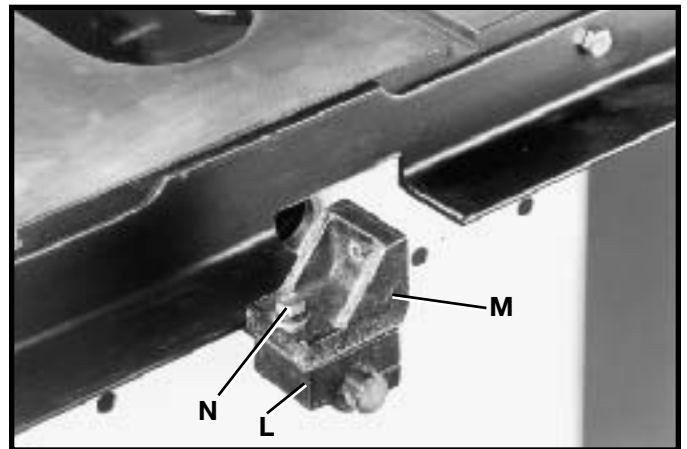

Fig. 30
8. Assemble upper splitter bracket (M) Fig. 30, to lower bracket (L) using one-inch long hex head screw (N) with lockwasher and flat washer. **NOTE:** Do not tighten screw (N) at this time.